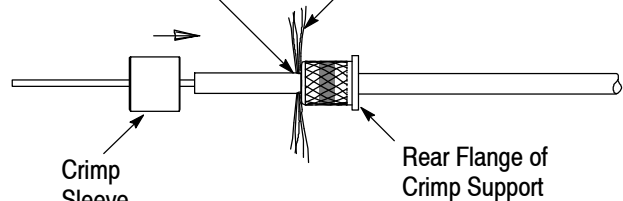

Figure 4
1. Apply a continuous bead of the instant adhesive around the cable jacket between 4 and 5 mm from the stripped end of the jacket. See Figure 4, Detail A.
2. Rotate and slide the crimp support (large diameter end first) over the fiber and strength members and onto the jacket until it bottoms (rotating the crimp support between the thumb and index finger will help feed the strength members through the crimp support). See Figure 4, Detail B.
3. Apply a thin band of the instant adhesive around the knurled portion of the crimp support. Make sure that the band is continuous around the entire circumference. See Figure 4, Detail C.
4. Slide the piece of cable jacket (stripped from the jacket in Paragraph 5.1) over the buffered fiber and into the center of the strength members until it bottoms against the crimp support and the strength members are fanned away from the fiber. See Figure 4, Details D and E.
5. Slide the crimp sleeve over the fiber and piece of cable jacket so that the strength members fold back evenly around and over the crimp support and until it bottoms on the rear flange of the crimp support; then remove the piece of cable jacket. This step should be performed quickly before the adhesive begins to harden. See Figure 4, Detail E.